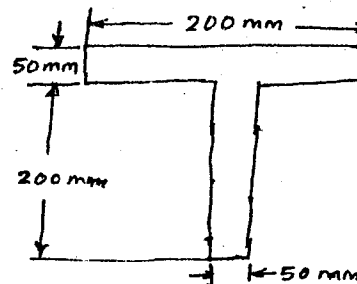

Fig.Q6(b)
- b. A T-shaped cross-section of a beam in fig.Q6(b) is subjected to a vertical shear force of 100kN. Calculate the shear stress at the neutral axis and at the junction of the web and the flange. M.I. about the horizontal neutral axis is 0.0001134 m^4 . (10 Marks)